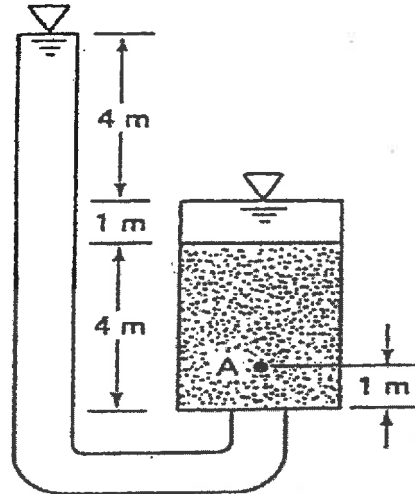

Figure 3
- (b) For **Figure 3** shown below, plot the distribution of pressure, total head and elevation head versus height, and give the values at the entrance and exit ends and at point A. (7 marks)